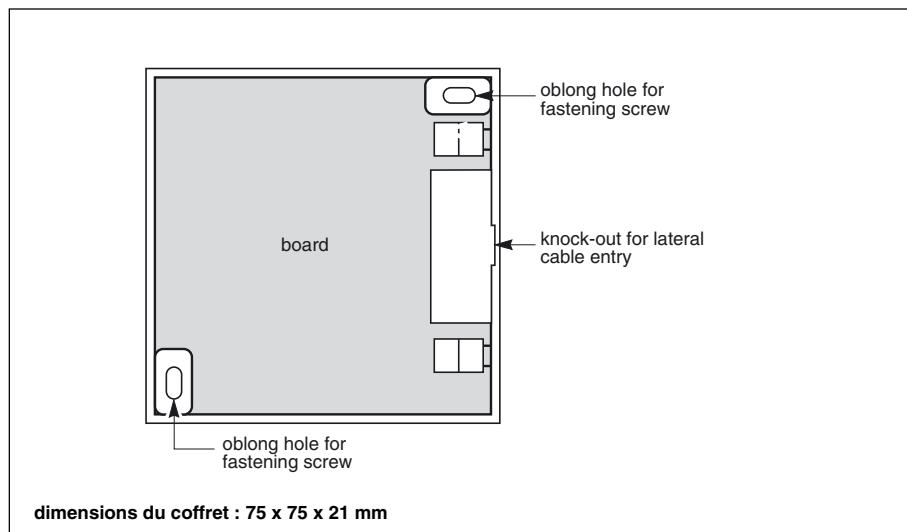

Fig. 34
- use the holes provided in the base plate to screw the unit to the vertical support (see figure 34);